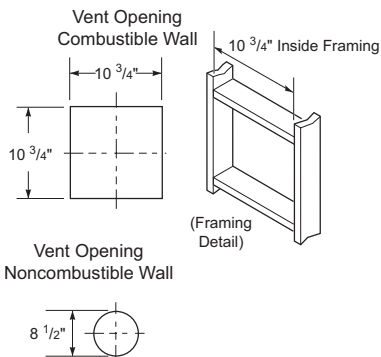

Figure 15 - Vent Opening Requirements
3. Attach vent pipe assembly to the fireplace using twist lock connections. Set fireplace in front of its permanent location to insure minimum clearances. Mark the wall for a 10 ³/₄" square hole (for noncombustible material such as masonry block or concrete, a 8 ¹/₂" diameter hole is acceptable). See Figure 15. The center of the hole should line up with the centerline of the rigid vent pipe. Cut a 10 ³/₄" x 10 ³/₄" square hole through combustible exterior wall (8 ¹/₂" diameter hole if noncombustible). Frame as necessary.
3. Cut a hole in the roof using the locating hole as a center point. (Cover any exposed open vent pipes before cutting hole in roof.) The $10 \frac{3}{4}" \times 10 \frac{3}{4}"$ hole must be measured on the horizontal; actual length may be larger depending on the pitch of the roof. There must be a 1" clearance from the vent pipe to combustible materials. Frame the opening as shown in Figure 15 on page 13.